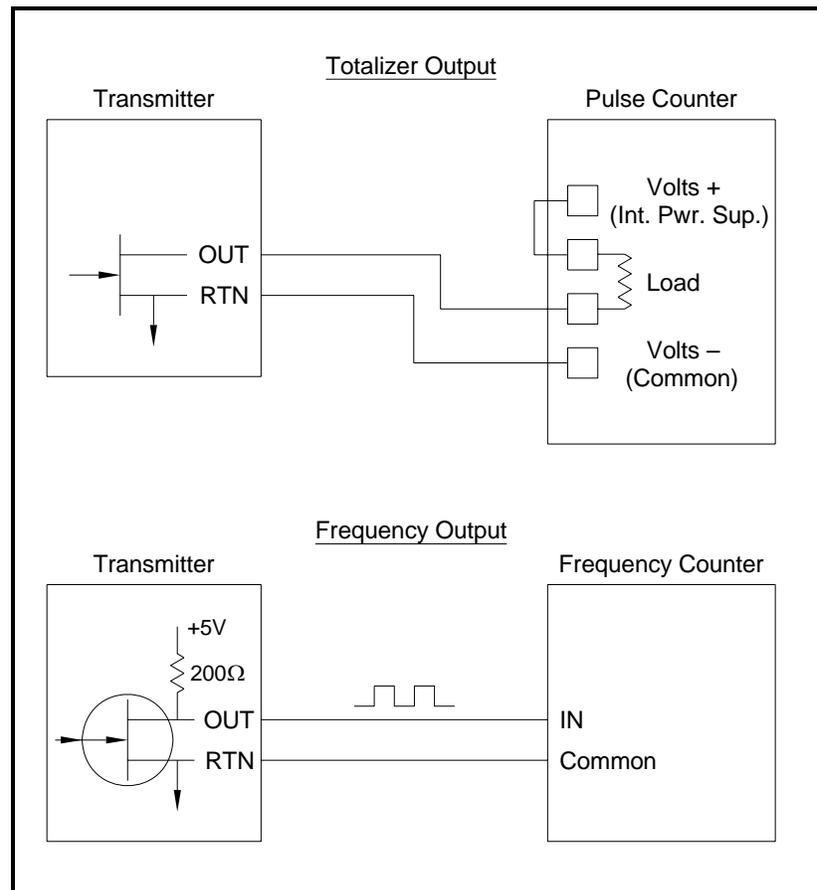
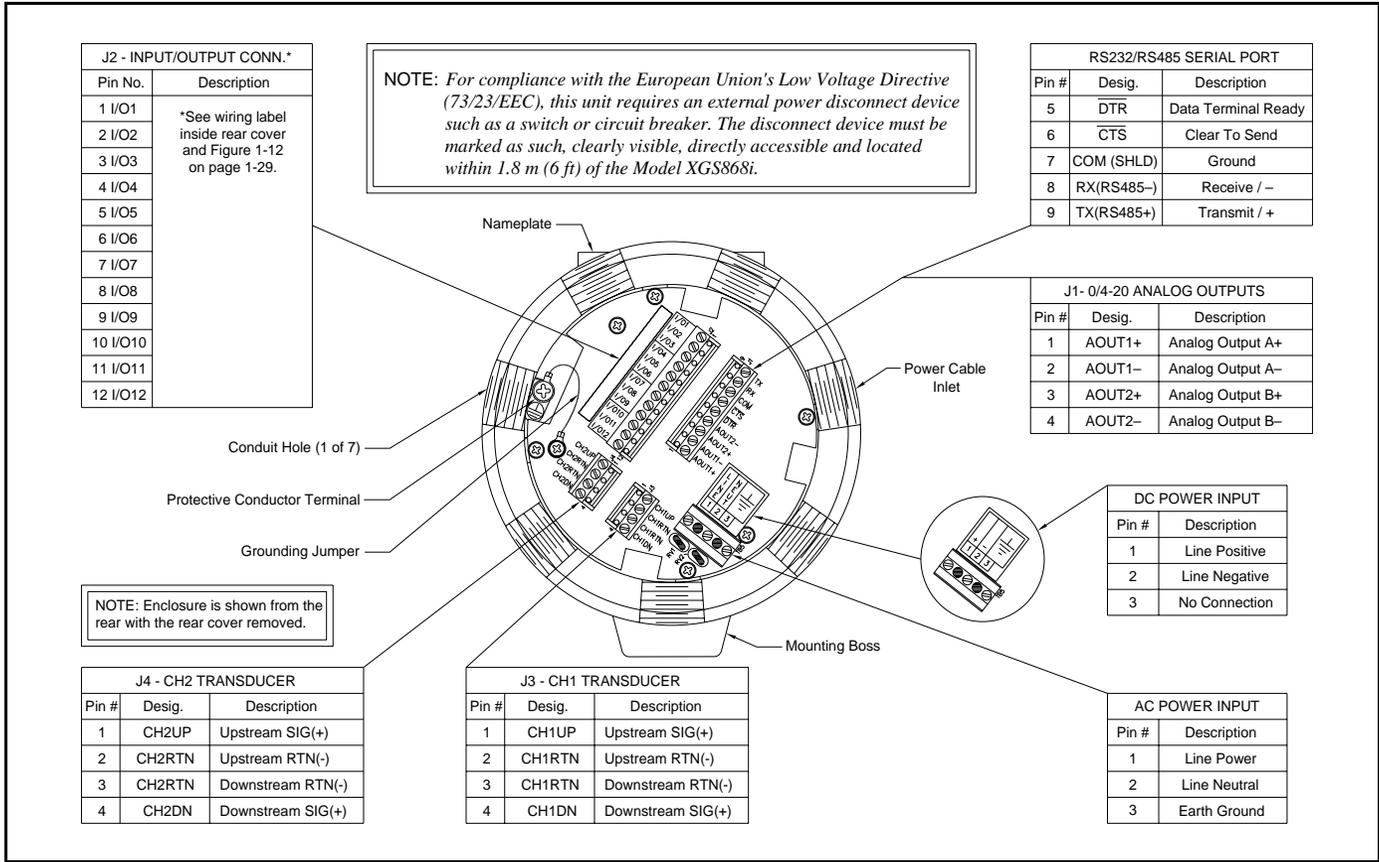
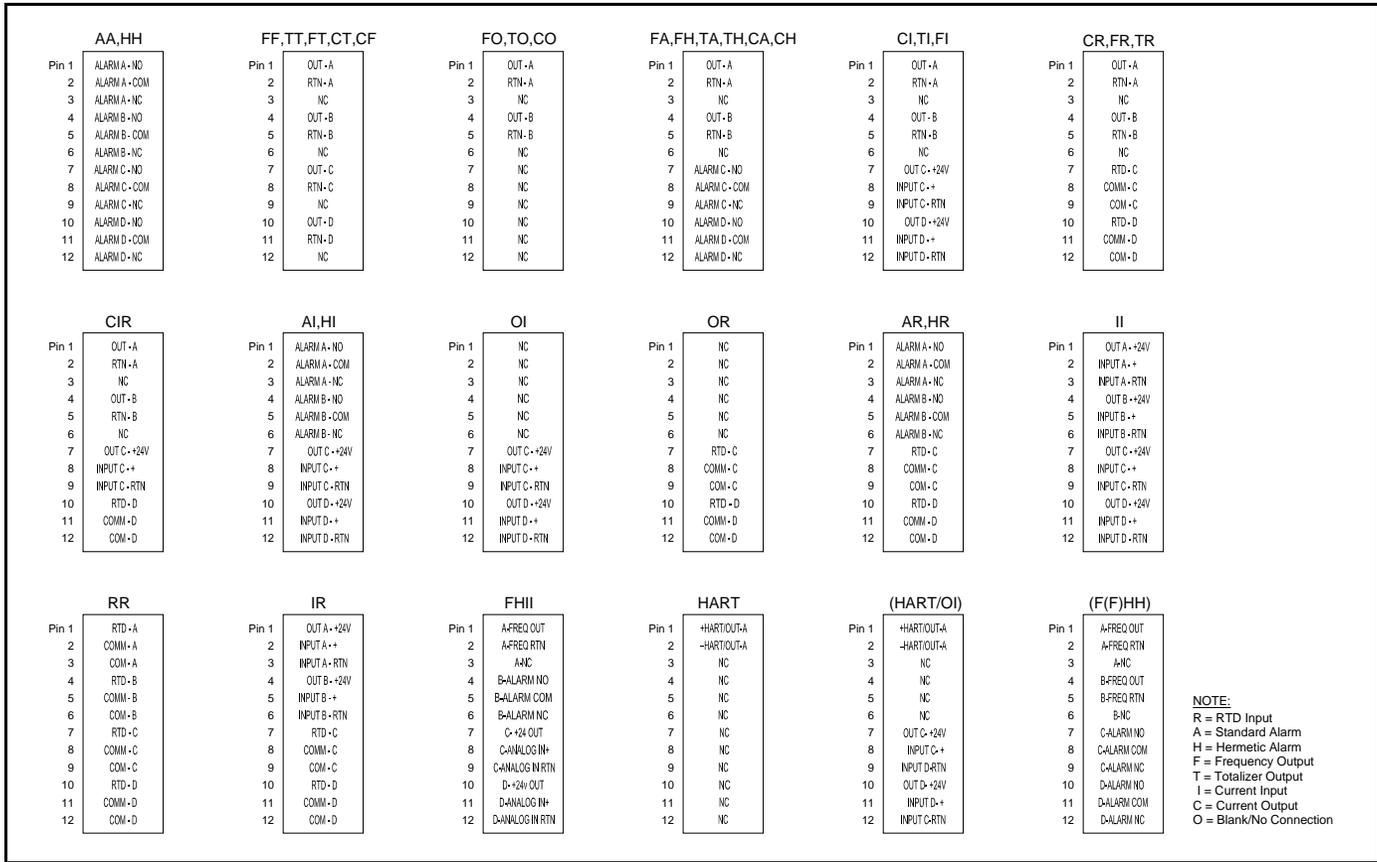

Figure 1-6: Totalizer/Frequency Outputs Wiring
Figure 1-10: Model XGM868i Wiring Diagram
Figure 1-11: Option Card Connection Labels (ref. dwg #442-615)
3. Locate the 12-pin terminal block (J2) in Figure 1-10 on page 1-27 and wire the option card as indicated on the label inside the rear cover (see Figure 1-3 on page 1-7 and Figure 1-11 on page 1-28). Secure the cable clamp.
Before making any connections, complete the steps in *Preparing for Wiring* on the previous page. Connect each alarm relay in accordance with the wiring instructions shown on the label inside the rear cover (see Figure 1-3 on page 1-7 and Figure 1-11 on page 1-28).
Before making any connections, complete the steps in *Preparing for Wiring* on page 1-16. Wire the analog inputs as shown on the label in the rear cover (see Figure 1-11 on page 1-28).
Before making any connections, complete the steps in *Preparing for Wiring* on page 1-16. Then, wire this option card in accordance with the connections shown on the label in the rear cover (see Figure 1-3 on page 1-7 and Figure 1-11 on page 1-28). Figure 1-6 below shows sample wiring diagrams of a totalizer output circuit and a frequency output circuit. Refer to *Electrical Specifications* on page 4-2 for load and voltage requirements.
The Model XGM868i RTD (Resistance Temperature Device) inputs option card provides two or four direct RTD inputs (designated as A, B, C and D). Each RTD input requires three wires, and should be connected as shown on the label in the rear cover (see Figure 1-3 on page 1-7 and Figure 1-11 on page 1-28).
Before making any connections, complete the steps in *Preparing for Wiring* on page 1-16. Then, wire this option card with the connections shown on the label in the rear cover (see Figure 1-3 on page 1-7 and Figure 1-11 on page 1-28).
By referring to Figure 1-11 on page 1-28, it is determined that the appropriate connection diagram for this option card is the second one from the left in the middle row (A|,H|). This label should also be found inside the rear cover of the XGM868i. Based on this information, wiring of the Input/Output connections to terminal block J2 should be completed as shown in Table 1-4 on the following page.
IMPORTANT: *Because the MODBUS option card uses pins 1 and 2 on terminal block J2, only those option cards that do not use these pins may be installed in Slot 1, while a MODBUS card is installed in Slot 2. Specifically, only the option cards designated as “OI” and “OR” in Figure 1-11 on page 1-28 are compatible with the MODBUS option card.*